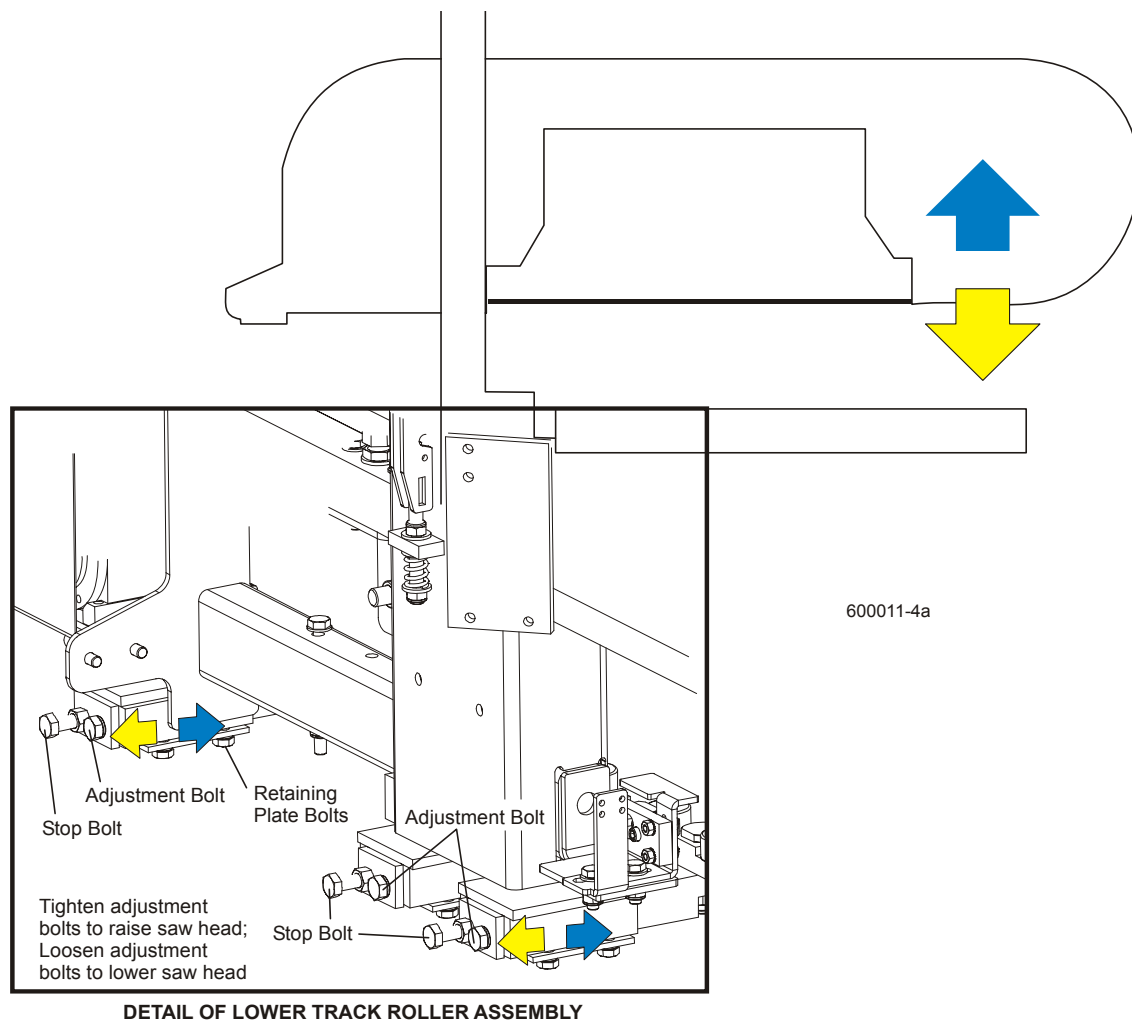

FIG. 5-43
**See Figure 5-43.** To adjust the saw head tilt, use the bolts located at the bottom of the saw head mast. Loosen the three sets of four retaining plate bolts. To raise the outside of the saw head, back the stop bolts out, then tighten the adjustment bolts. To lower the outside of the saw head, loosen the adjustment bolts and tighten the stop bolts. Recheck the measurement from the blade to the bed rails and adjust the stop bolts and adjustment bolts until the outside of the saw head is 1/16" higher than the inside. Retighten the retaining plate bolts.